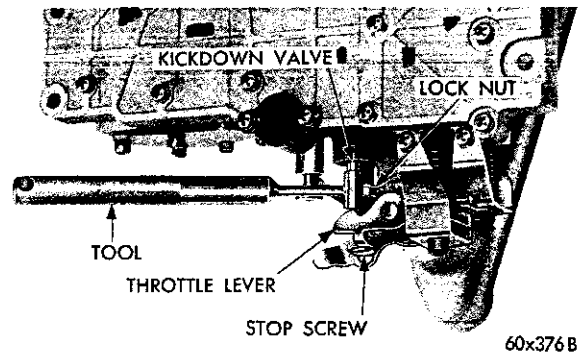

Fig. 28—Throttle Pressure Adjustment
(1) Remove the valve body assembly from the transmission to perform the adjustment. Refer to Paragraph 24.
(2) Loosen the throttle lever stop screw lock nut and back off approximately five turns (Fig. 28).
(3) Insert the gauge pin of Tool C-3763 between the throttle lever cam and the kickdown valve.
(4) By pushing in on the tool, compress the kickdown valve against its spring so the throttle valve is completely bottomed inside the valve body.
(5) As force is being exerted to compress the spring, tighten the throttle lever stop screw finger tight against the throttle lever tang with the throttle lever cam touching the tool and the throttle valve bottomed. **Be sure the adjustment is made with the spring fully compressed and the valve bottomed in the valve body.**
(6) Remove the tool and tighten the stop screw lock nut securely.